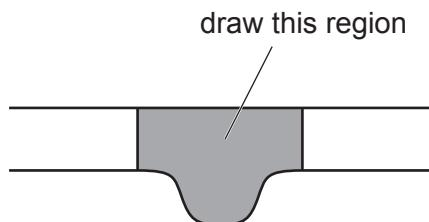

Fig. 2.1
- (a) (i) Draw a large plan diagram of the region of the leaf on J1 indicated by the shaded area in Fig. 2.1.